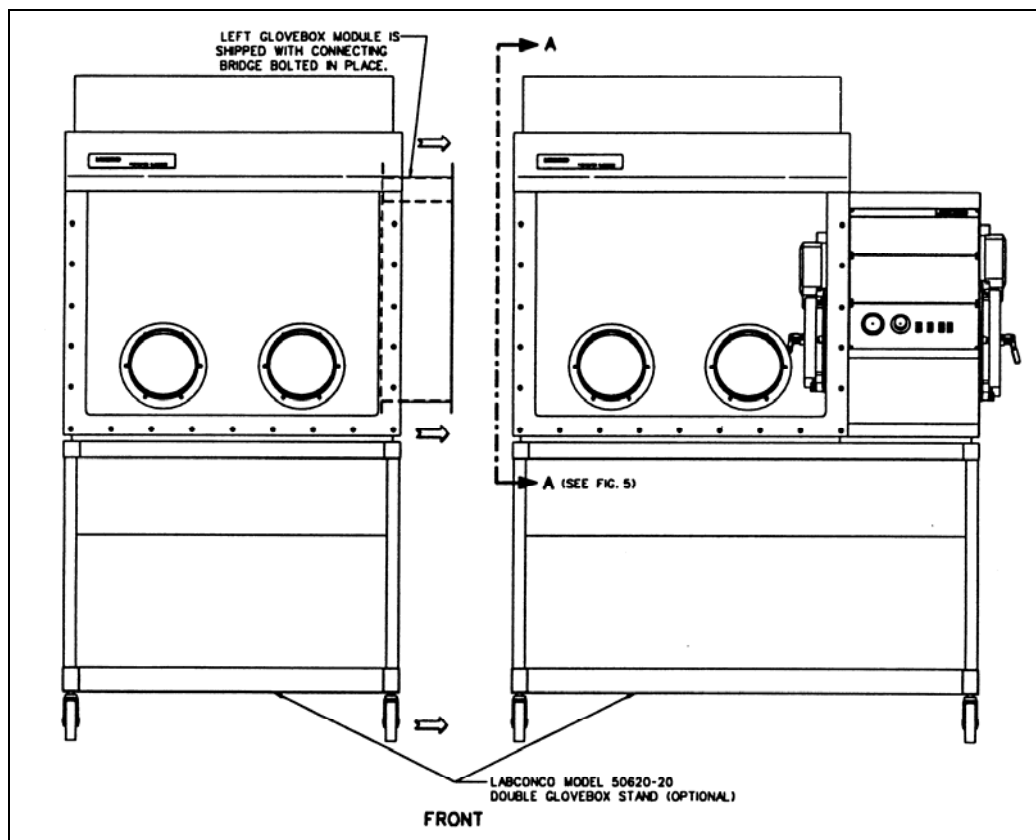

Figure 4
Step 1. Place glove box modules on level base stand. If two separate stands are used, see Figure 4, to be sure that each stand is level and adjusted to same height.